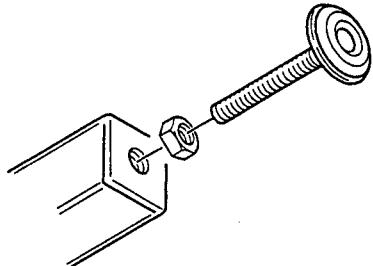

FIGURE 7: INSTALLING LEVELER ON LEG
- 8) Install the hex nut half-way up on each leveler. Install leveler with nut onto each leg (see figure 7).